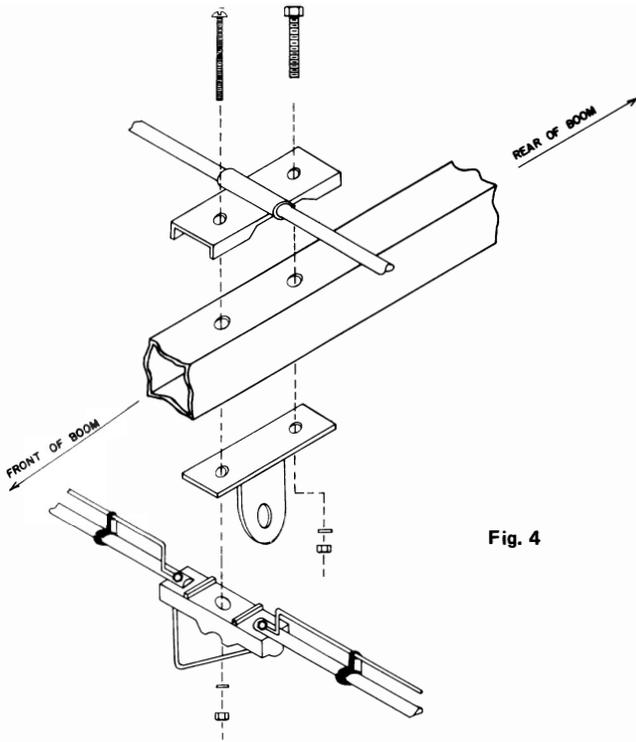

Fig. 4
As shown in Figure 4, mount the driven element (DE), gamma arm mounting bracket and phasing stub (P2) to the boom using a 1/4-20 x 1-3/4" hex head bolt, 1/4" lockwasher, 1/4-20 hex nut at the rear bracket hole, and a 10-32 x 2-1/2" round head machine screw, # 10 external tooth lockwasher and a 10-32 hex nut at the front bracket hole.